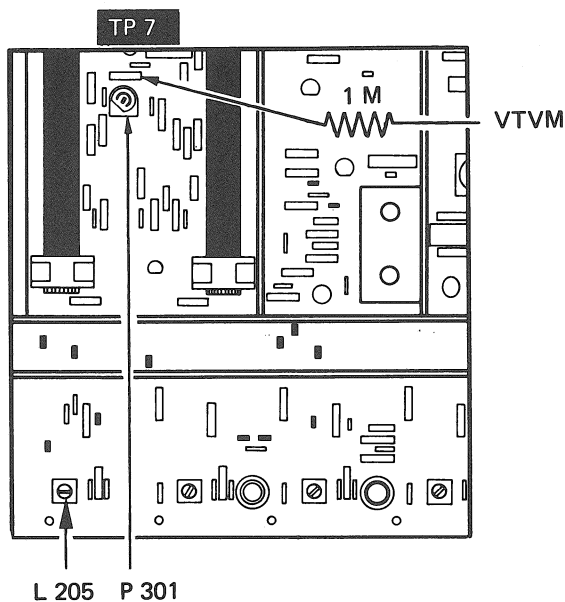

Fig. 4.12.-1
Adjust IF transformer L205 to obtain minimum distortion (see fig. 4.12.-1). The maximum total harmonic distortion with the demodulator aligned must not exceed 0.3 %.
Connect a resistor of 1 Mohm to test point 7 (see fig. 4.12.-1); connect VTVM (DC) to that resistor.
Adjust symmetry potentiometer P 301 (see fig. 4.12.-1) to obtain a null indication on the VTVM.